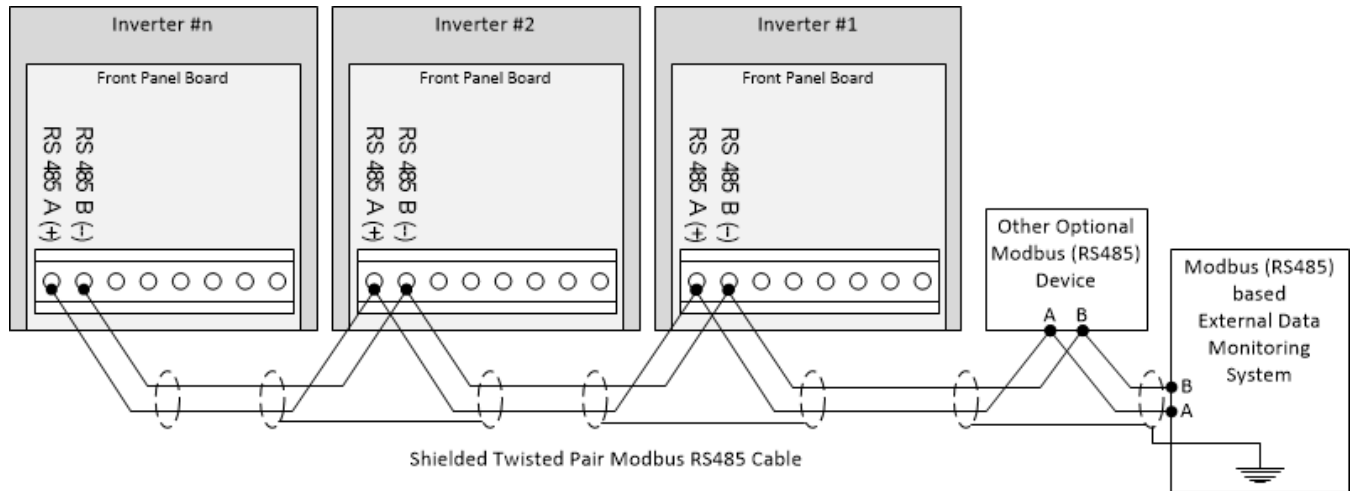
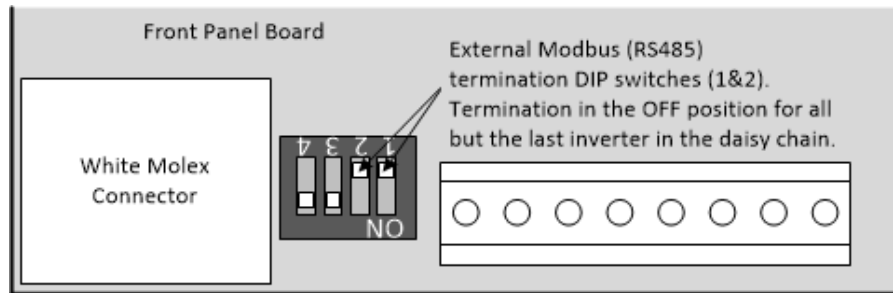
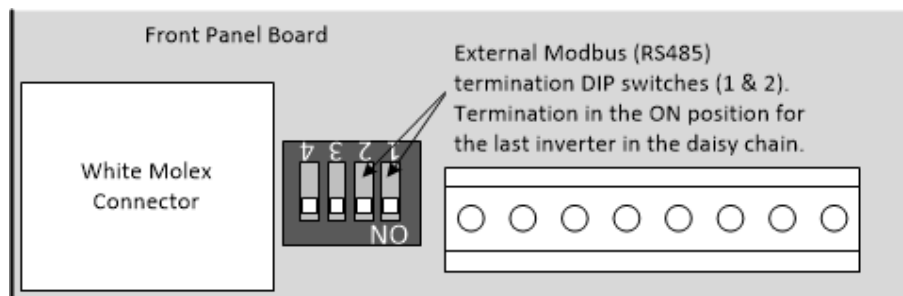

Figure 7.8 – Typical External Data Monitoring System Modbus Connections
Figure 7.11 – External Modbus (RS-485) Termination Switches 1 and 2 in the OFF Position
Figure 7.12– External Modbus (RS-485) Termination Switches 1 and 2 in the ON Position
2. Connect the RS-485 wires to the A and B terminals on the front SolrenView board as shown in Figure 7.8. Torque the terminals to 4in-lbs.
3. The shields between the different cable legs need to be connected together to ensure shield continuity as shown in Figure 7.8. Do not connect the shield to the ground terminal on the SolrenView DAS.
It is important that the Modbus be terminated correctly in order to minimize any bus reflections that could cause communications disruptions. The Solectria inverters provide DIP switches that allow one to turn the bus termination ON or OFF. The default setting from the factory has the external Modbus (RS-485) terminations turned OFF. The default OFF setting is appropriate for inverters that are in the “middle” of the daisy chain, where bus termination is not required (e.g., inverter #1 and #2 in Figure 7.8 above). Any inverter that is not at the end of the daisy chain should use the factory default setting with the termination turned OFF as shown in Figure 7.11.
As seen in Figure 7.11, the external Modbus (RS-485) termination switches (1 and 2) are in the OFF position (facing away from the edge of the board). Switches 3 and 4, closest to the white Molex connector, should be in the ON position towards the edge of the board.
If the inverter happens to be the last device in the Modbus (RS-485) daisy chain (where the bus physically ends) the external bus termination has to be turned ON (e.g., Inverter #n in Figure 7.8 above). That is done by pushing DIP switches 1 and 2 towards the edge of the board. Switches 1 and 2 are the two DIP switches that are further away from the white Molex connector, as shown in Figure 7.12.